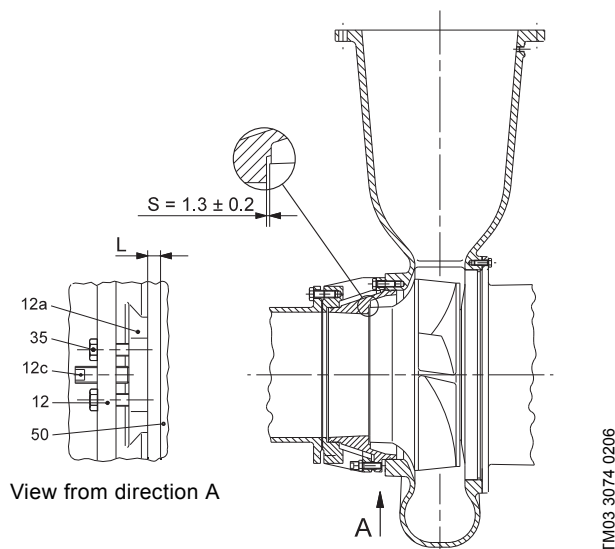

Fig. 11 Impeller clearance, installation type D and H, method 2
These pump types have threaded holes in the suction cover (12a) for the fastening screws (35) as shown in fig. 11. Set the impeller clearance as follows:
1. Slacken the six fastening screws (35) and close the impeller clearance "S" by tightening the three set screws (12C). Tighten the screws diagonally to move the suction cover evenly.